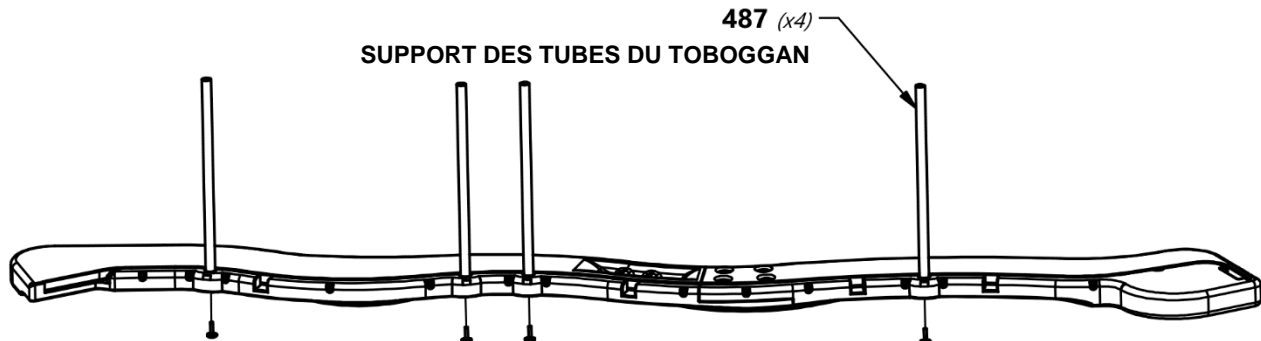

FIGURE 1
INSÉREZ LES (4) TUBES DE SUPPORT DU TOBOGGAN DANS LEURS EMPLACEMENTS DE RÉFÉRENCE RESPECTIFS (FIGURE 1).